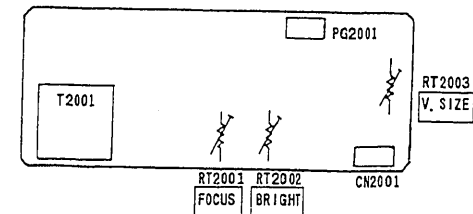

Fig. 2-25 EMQ (Electronic Viewfinder) Circuit Board [Parts Side]
#### (3) EVF Vertical Size Adjustment (Fig. 2-25)
#### (4) EVF Brightness Adjustment (Fig. 2-25)
#### (5) EVF Focus Adjustment (Fig. 2-25)